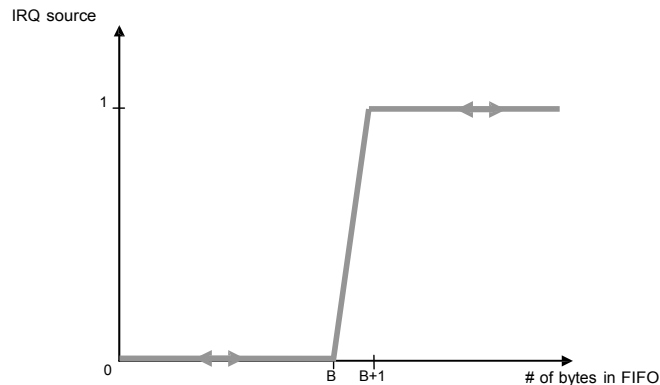

Figure 32: FIFO Threshold IRQ Source Behavior
- Fifo_threshold: Fifo_threshold interrupt source's behavior can be programmed via MCPParam_Fifo_thresh (B value). This behavior is illustrated in Figure 32.